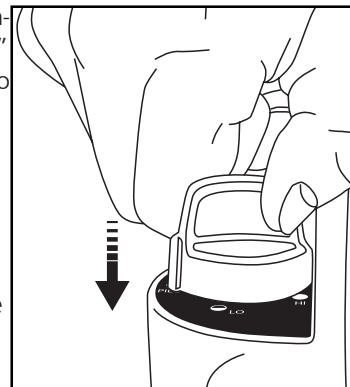

Figure 3: Ignition
4. Turn Control Knob counterclockwise to "PILOT" position and depress to light. See Figure 3.
- Turn Control Knob counterclockwise to "PILOT" position and depress to light; see Figure 3. This may take longer to purge air from the supply hose depending on the length of the hose being used.